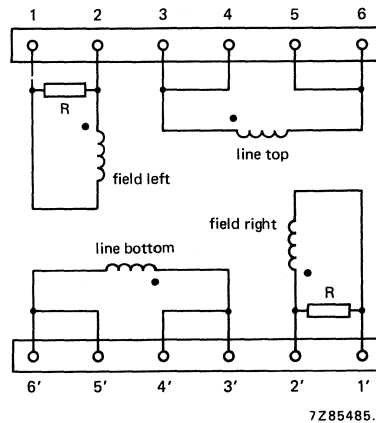

Fig. 2 Diagram of line and field coils; R = 270 Ω . The beginning of the windings is indicated with ●.
If a further improvement of raster geometry is required use can be made of correction magnets*, which must be fitted to mounting posts (1); posts a to be used for AT1039/00, posts b for AT1039/01. The unit has solder pins for connection. The pin numbering in Fig. 1 corresponds to that in Fig. 2.